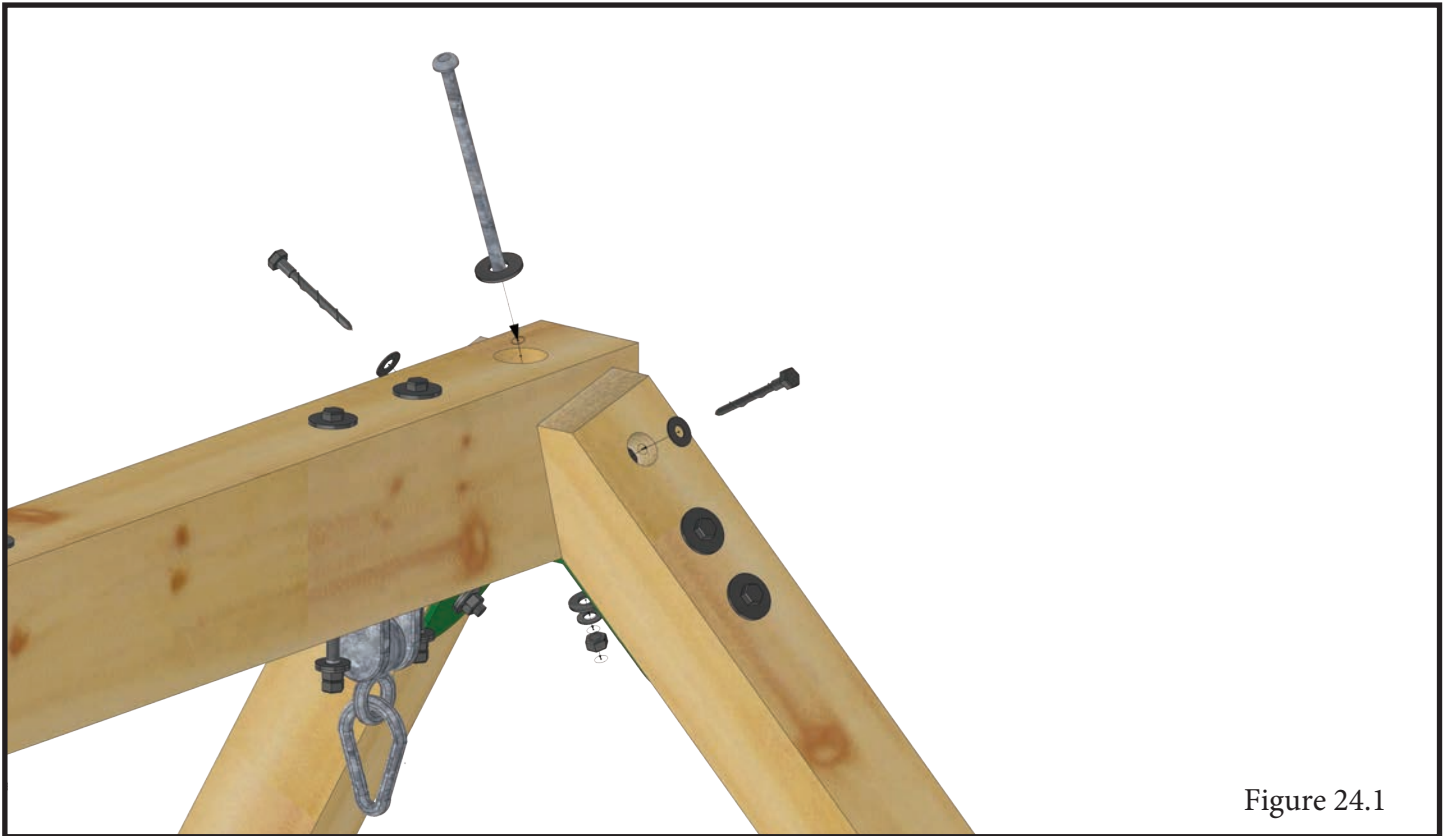

Figure 24.1
24.3 Fasten the top of the Swing Legs into the Swing Beam with 5/16" x 3" Lag Bolts with 5/16" washer as shown in Figure 24.1.